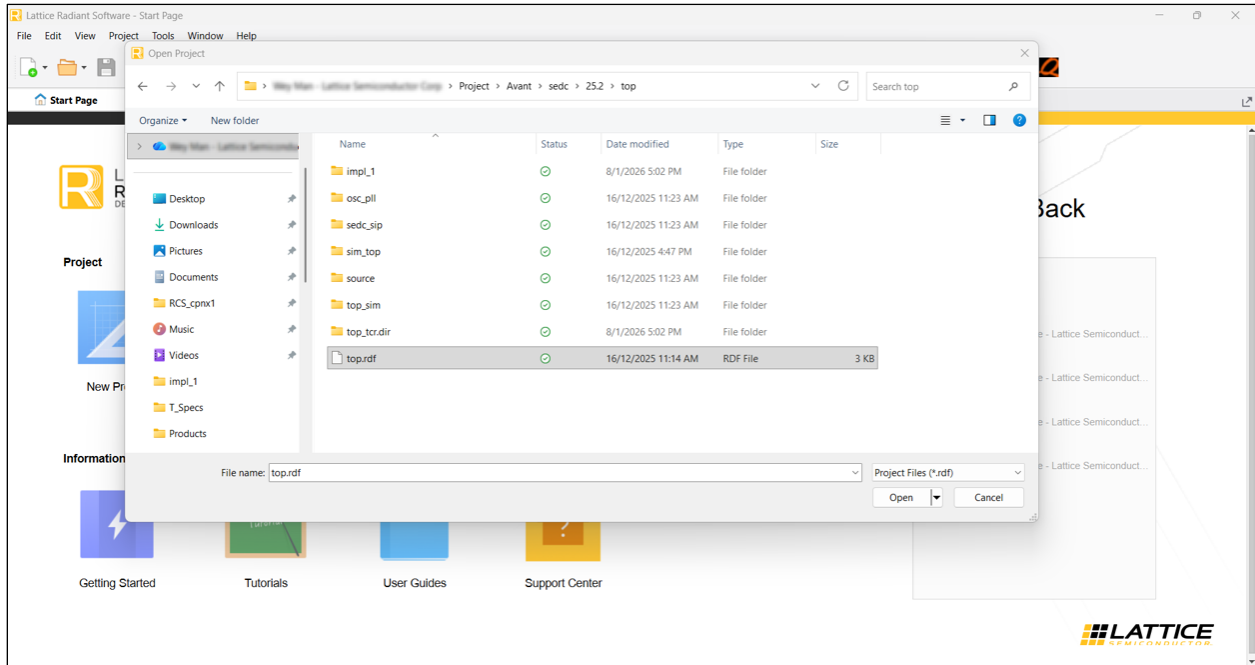

Figure 5.2. Open Project File
- Click **File > Open Project**. From the project database, navigate to the folder of the reference design project (for example, *sedc/25.2/top*) and open the Lattice Radiant project file *top.rdf* as shown in Figure 5.2.